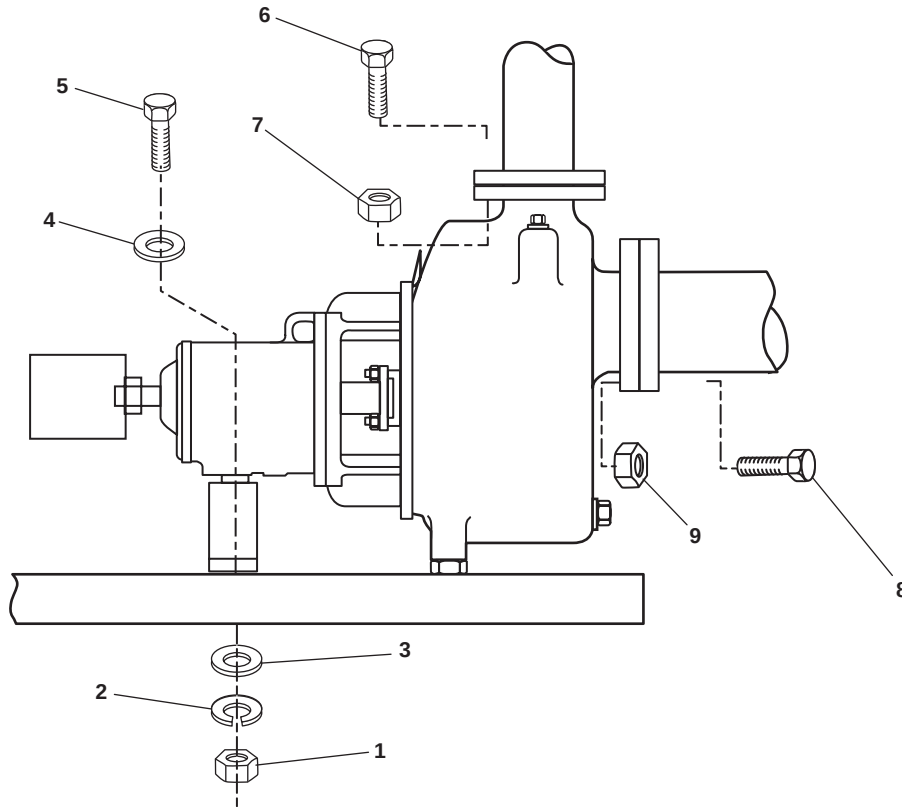

Figure 1. Ballast Pump Hardware Replacement
2. Remove the nuts (figure 1, item 1), lockwashers (figure 1, item 2), flat washers (figure 1, items 3 and 4), and bolts (figure 1, item 5). Discard the lockwashers and any damaged or corroded fasteners.
3. Remove the bolts (figure 1, item 6) and nuts (figure 1, item 7). Discard any damaged or corroded fasteners.
4. Remove the bolts (figure 1, item 8) and nuts (figure 1, item 9). Discard any damaged or corroded fasteners.
1. Install the bolts (figure 1, item 5), flat washers (figure 1, items 3 and 4), new lockwashers (figure 1, item 2), and nuts (figure 1, item 1).
2. Install bolts (figure 1, item 6 or 8) and nuts (figure 1, item 7 or 9).